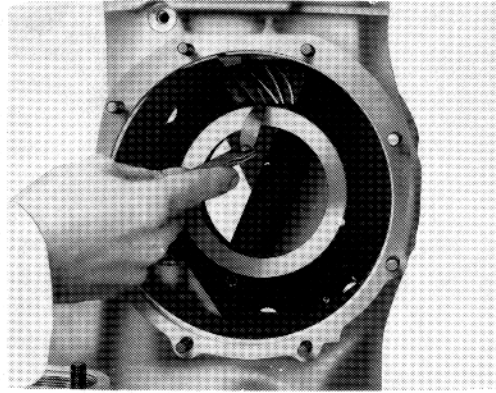

Fig. 4 With pinion in the setting gauge, a feeler gauge is used to measure clearance
5. Using a feeler gauge, measure the clearance between pinion face and setting gauge (Fig. 4). Correct clearance is etched on the pinion.